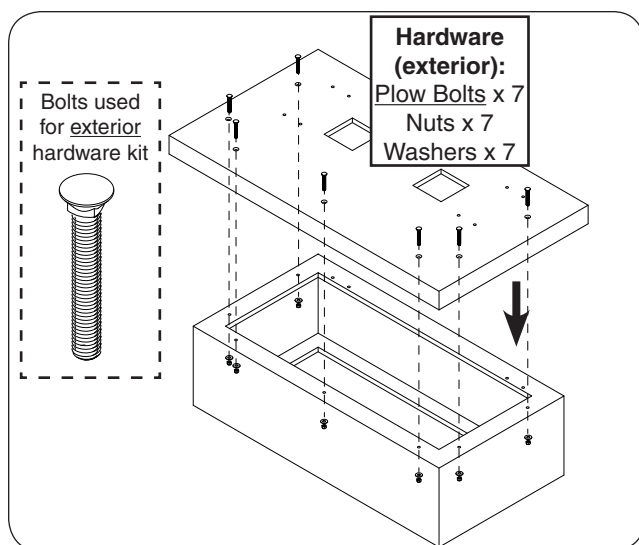

Fig. 15-2 Assemble shelf
2. Place the shelf piece on top of the hearth. Carefully align the pilot holes, and insert the hardware (exterior hardware kits) in the order shown in Fig. 15-2. Hand tighten, then use a $\frac{3}{4}$ " open end wrench (or equivalent) to fasten.